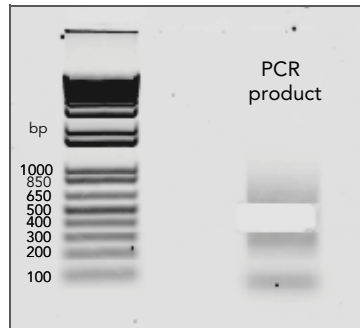

Figure 23 Gel Containing Amplified Mate Pair Sample After Removal of Size-Selected Final Library
9. Excise a piece of gel, purifying DNA 350–650 bp in size with a clean scalpel, as shown in Figure 23.